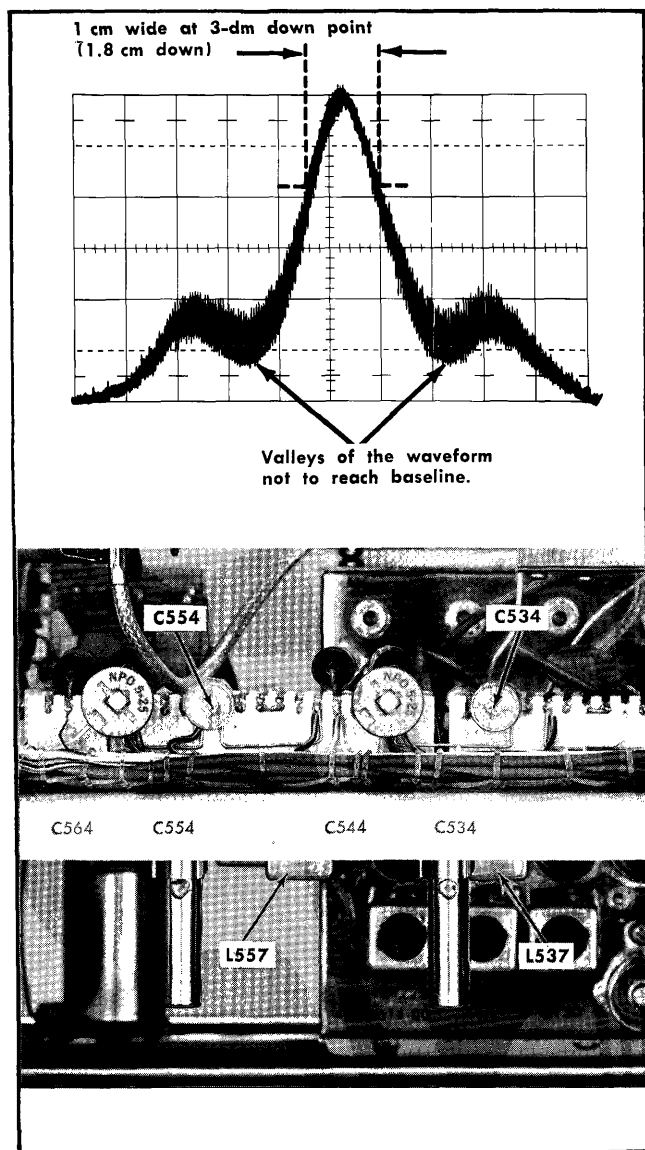

Fig. 4-15. Location of Resolution adjustments and the desired waveform with the adjustments properly set. See Text.
h. Adjust L557, L537, C554 and C534 for the display shown in Fig. 4-15. The valleys in the display should be